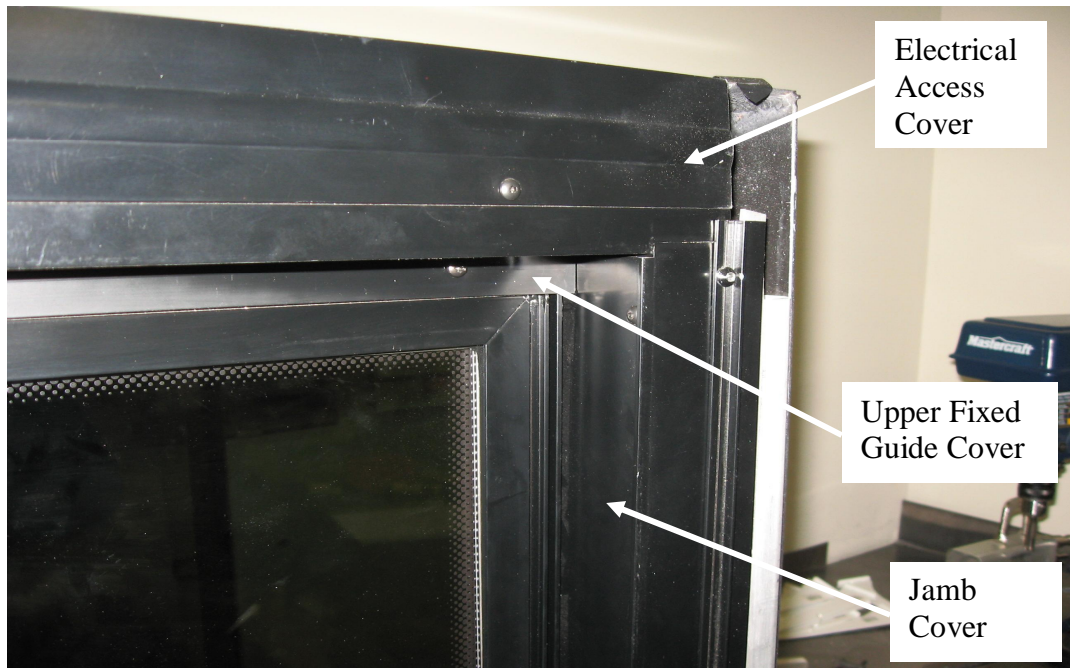

Figure 6
- 2) Remove electrical access cover and the right hand side jamb cover (Figure 6)